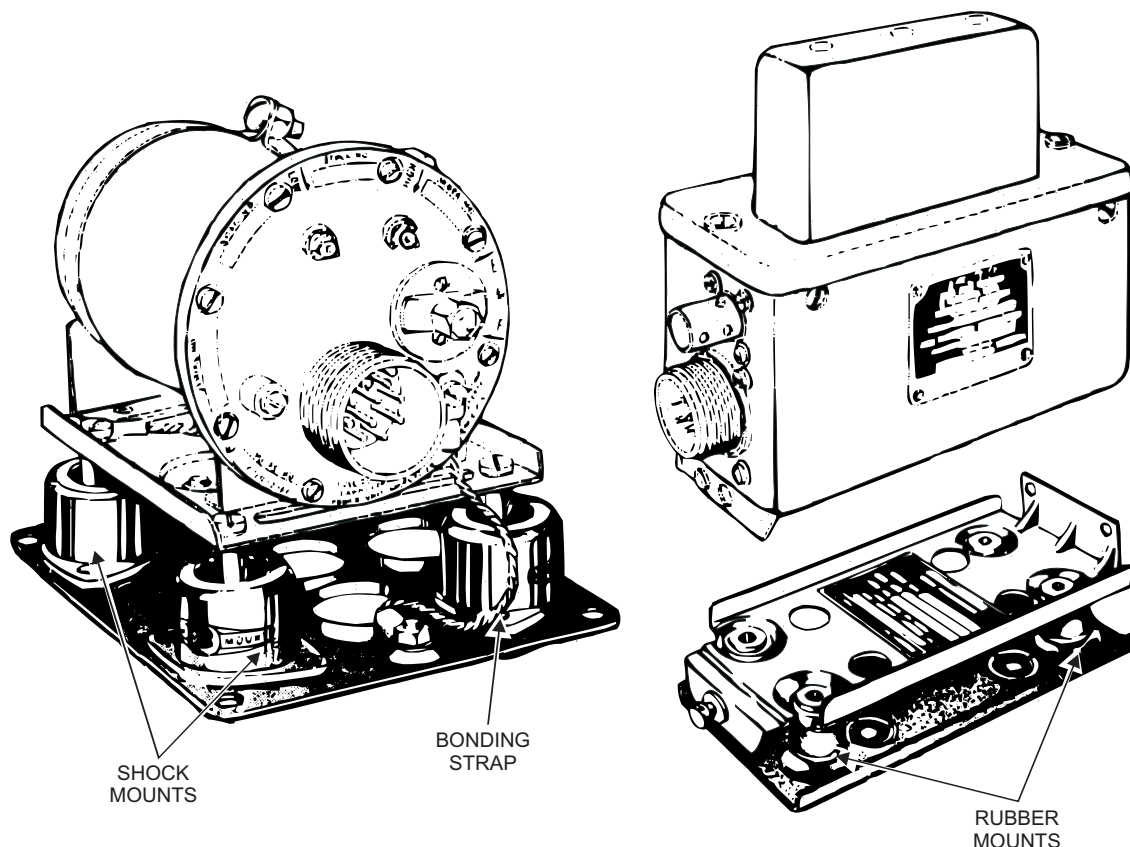

Figure 5-32.—Shear wire on a switch guard.
*Shear wire* is used for emergency device protection against accidental activation. An example of safety-wiring a guarded switch is shown in figure 5-32. You can see that the wire is not twisted tightly. Use very